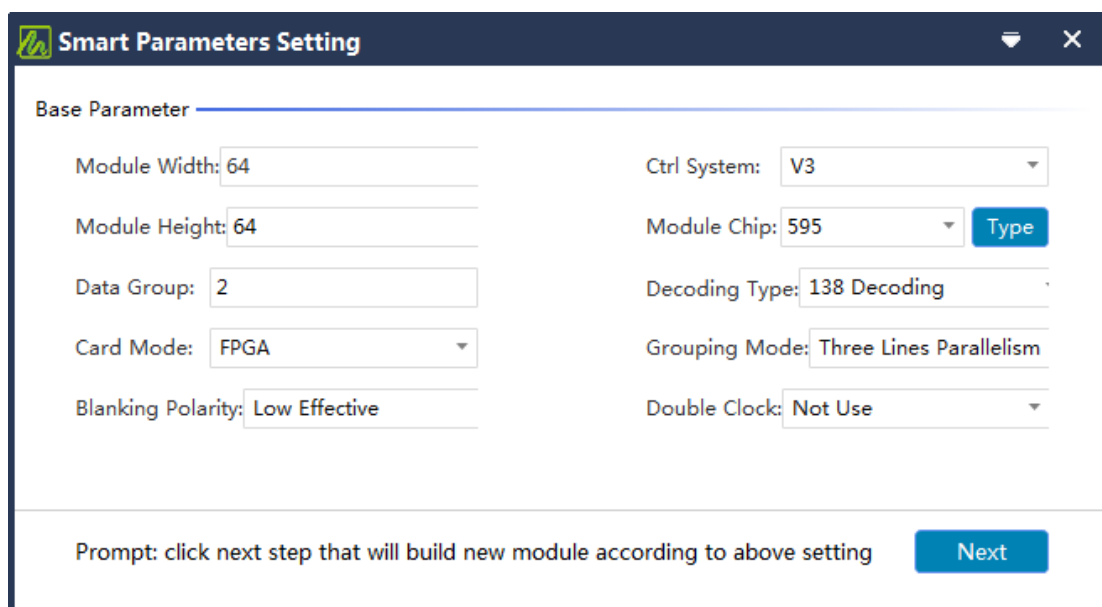

Figure 4-2-1 Normal Mode-Smart Parameters Setting
(1) To click the “Normal Mode” on the software, and then goes to the screen configuration interface, on the lower left corner, click the “smart setting” to enter into the “Smart Parameters Settings”, and then enter the corresponding parameters according to the actual situation of the current LED module, as shown in figure 4-2-1: